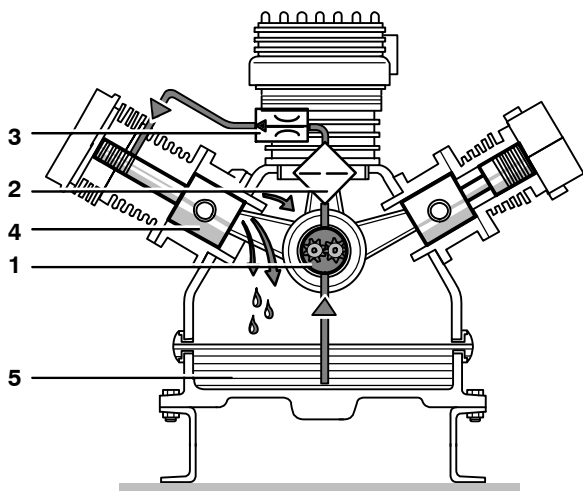

Fig. 26 Lube oil circuit
The oil pump (1, Fig. 26) is coupled to and driven by the crankshaft. It pumps oil from the oil sump (5) through the oil fine filter (2) and a minimum pressure valve (3) to the 3rd stage cylinder. The oil is then distributed by the guide piston of the 3rd stage (4) and lubricates all moving parts of the compressor block.